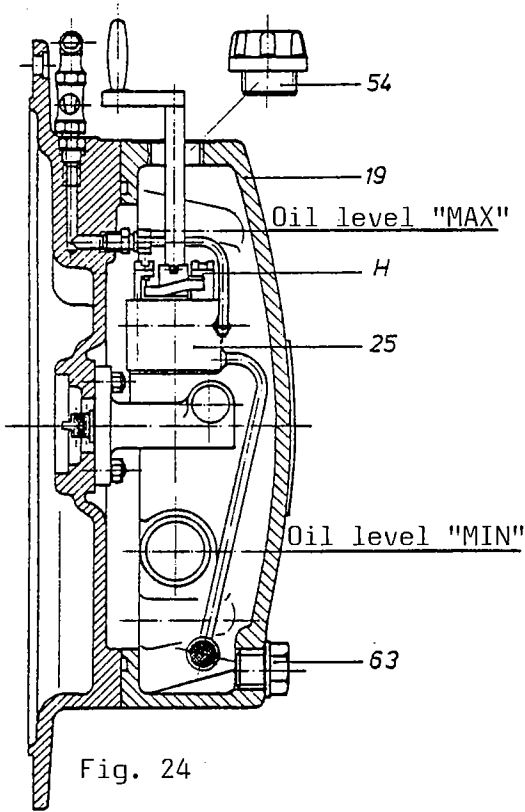
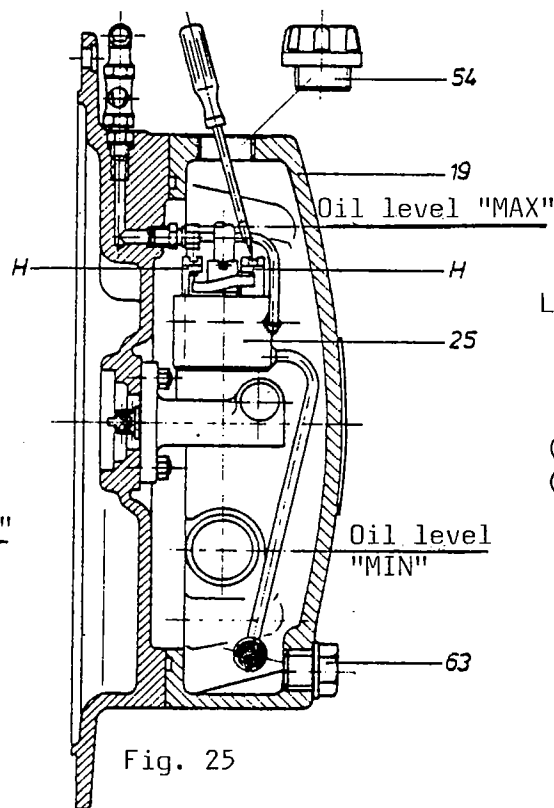

Fig. 24
Fig. 25
Screwed oil filler cap (54) from the oil tank (19) (Fig. 24 and 25) is to take away. The oil is to drain off at the screw (63). The setscrews at the pistons (H) of the oil pump (25) can be regulated by a screw-driver trough the oil inlet (Fig. 25). Clockwise rotation = more oil, anticlockwise rotation = less oil. One full turn of the setscrew changes the discharge volume **about** approx. 1/3 off full stroke volume.